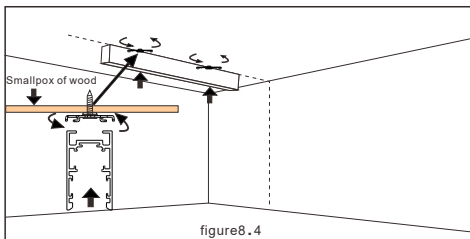

figure8.4
4. Connect the installation groove on the back of the track with the fixed button on the ceiling, and the fixed button shall be fastened clockwise into the clamping groove on the back of the track, and check whether it is firm and safe (Figure 8.4) Note: Please refer to the installation instructions of external power supply for power installation wiring (Figure1.1)